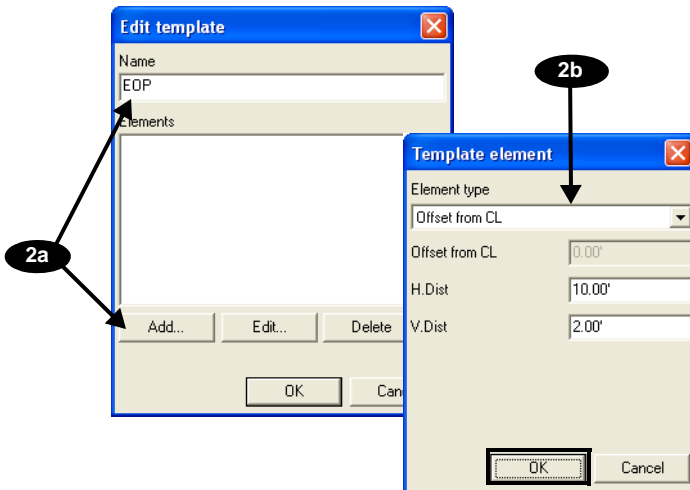

Figure 6-16. Set First Template Element
2. Enter a name for the template and press **Add** on the *Edit template* dialog box. Select the first element type as *Offset from CL*, enter the *H.Dist* and *V.Dist* values, and press **OK** (Figure 6-16).